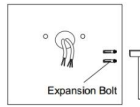

Figure 19
Step 2: Knock the expansion bolts into the wall. (Figure 19)